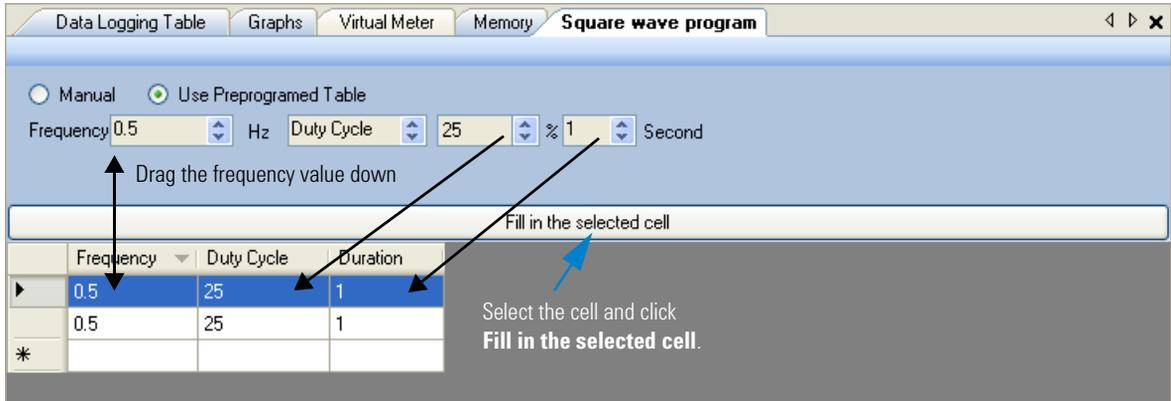

Figure 20 Square wave program settings
- 2 Drag and drop the frequency value into the **Frequency** column cell in the table (Figure 20).
- 3 Select the respective **Duty Cycle** and **Duration** column cell and then click **Fill in the selected cell** to input the parameters (Figure 20).